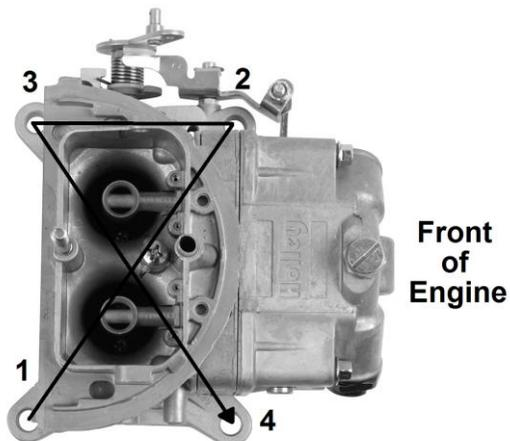

Figure 1 - Carburetor torque sequence
- Place the carburetor on top of the flange gasket on the manifold. If installing all three carburetors at this time, install the center carburetor (0-80683 or 0-80683-1) and then the two outboard carburetors (0-80684 or 0-80684-1). Install the hold down nuts and snug down progressively in a “crisscross” pattern (60-80 in./lbs.), as shown in Figure 1.